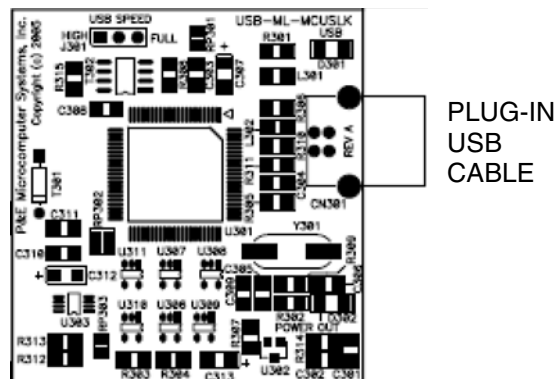

Figure 3. Installation of USB Cable
- Connect the other end of the USB cable to the USB connector on the MCU Project Board – 2. Figure 3 illustrates the USB connector on the project board for the BDM Multilink pod interface to power, program, erase, and debug the MC9S12C32 MCU on the application module board.